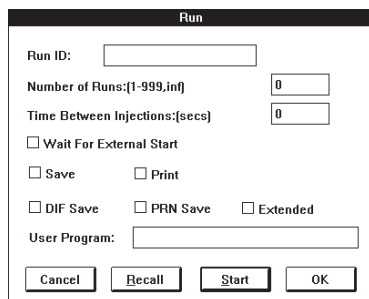

Figure 41 Run window
2. Fill in the Run Setup screen (See Figure 41).